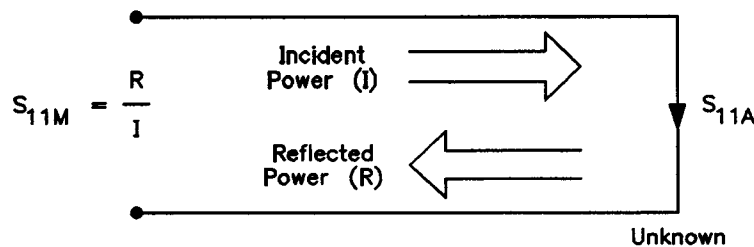

Figure B-2
First consider a measurement of the complex reflection coefficient of an unknown one-port device. The complex reflection coefficient, S_{11} , is measured by first separating the incident signal (I) from the reflected signal (R), then taking the ratio of the two values (Figure B-2). No matter how carefully the device is measured, the measured value S_{11M} will differ from the actual value S_{11A} , because of the presence of systematic errors.